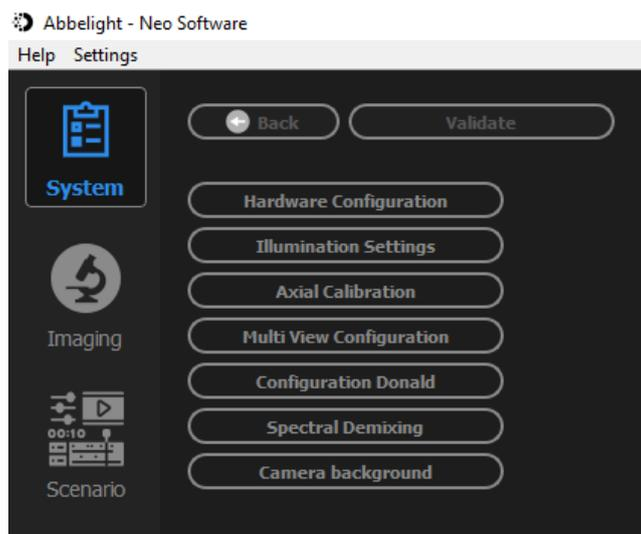
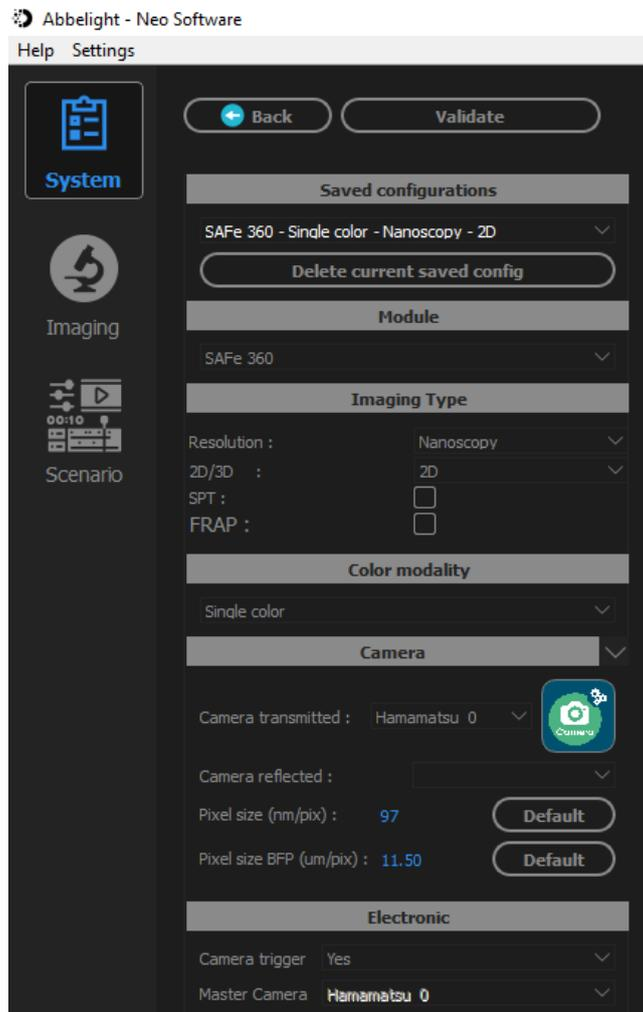
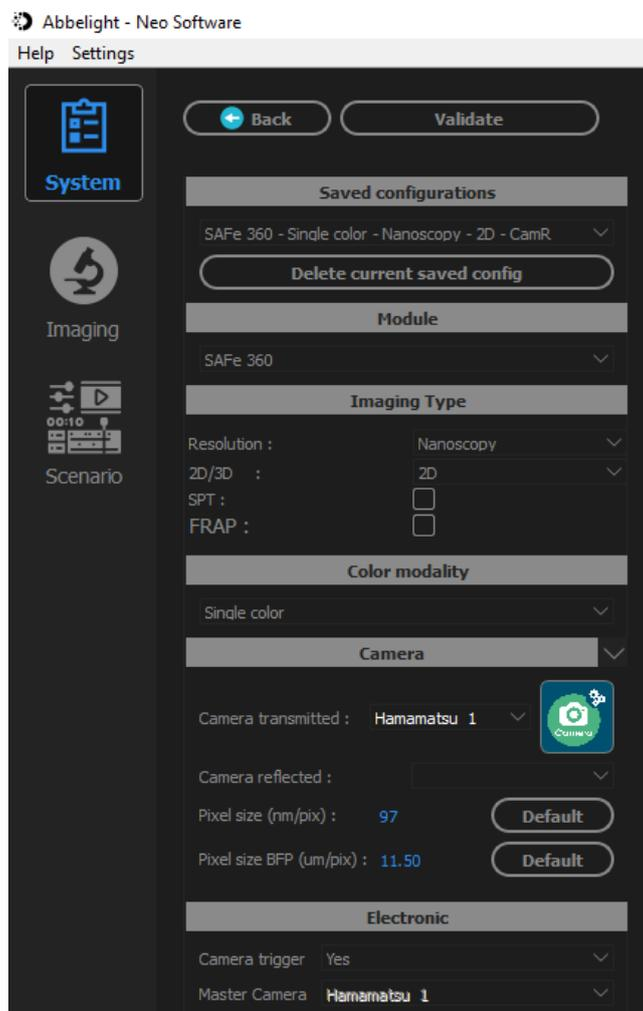

Figure 7: Accessing the hardware configuration on the NEO Live Imaging GUI.
Figure 23: The hardware configuration window for single-channel acquisition of far red signal. The master camera must be set to “Hamamatsu 0.”
Figure 24: The hardware configuration window for single-channel acquisition of red, green, or blue signal. The master camera must be set to “Hamamatsu 1.”
3. On the NEO Live Imaging GUI, click on “System,” then “Hardware Configuration” (Fig. 7).
1. On the NEO Live Imaging GUI, click on “System,” then “Hardware Configuration” (Fig. 7). In the resulting hardware configuration window, under “Saved configurations,” select “SAFe 360 - Single color - Nanoscopy - 2D” (Fig. 23).
1. On the NEO Live Imaging GUI, click on “System,” then “Hardware Configuration” (Fig. 7). In the resulting hardware configuration window, under “Saved configurations,” select “SAFe 360 - Single color - Nanoscopy - 2D - CamR” (Fig. 24).